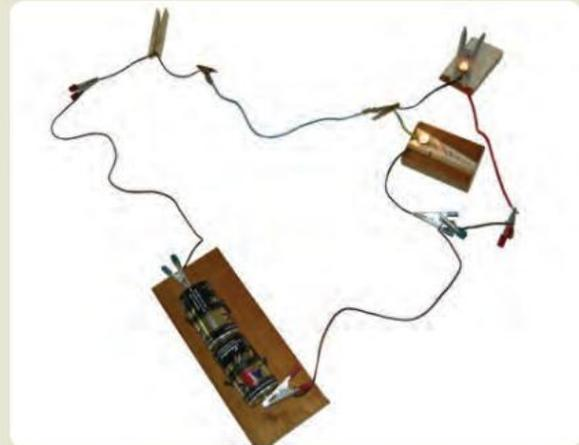

Figure 8.33 A switch, two bulbs and two cells connected in parallel
- 3 Connect a second bulb (Bulb 2) to the first bulb (Bulb 1) as shown in Figure 8.33.